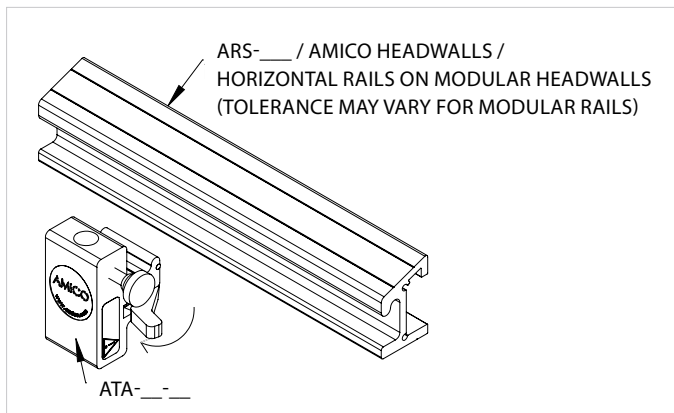
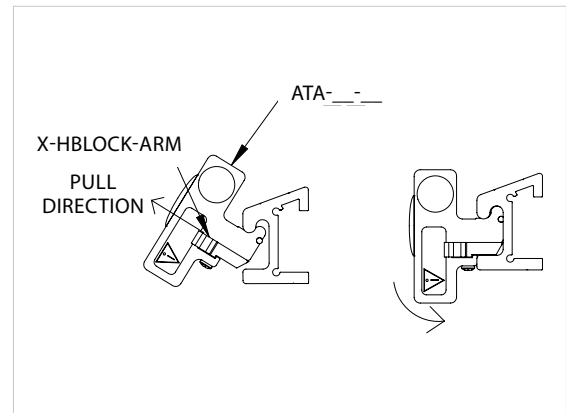

Figure 1
Figure 2
3. Install the ATA-__-__ by pulling X-HBLOCK-ARM (**Figure 1**) and wedging the top of the ATA-__-__ in, as shown in step 1. With X-HBLOCK-ARM pulled, push the ATA-__-__ into the rail as shown in step 2. (**Figure 2**)